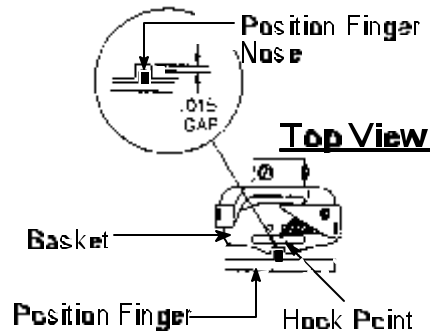

Figure 2
5. Move Position Finger Nose **forward or back** from hook basket allowing enough clearance for thread to pass between easily. See Figure 2